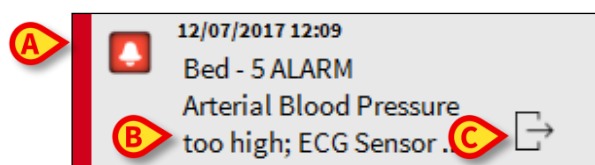

Fig 78
In the message box (Fig 78), the following information is displayed:
- An icon characterizing the message type (Warning, Alarm, Info - Fig 78 **A**)
- An icon indicating the message category (Fig 78 **B**)
- A “Callback” button. Click the button to access the patient station on which the notification occurred (Fig 78 **C**)